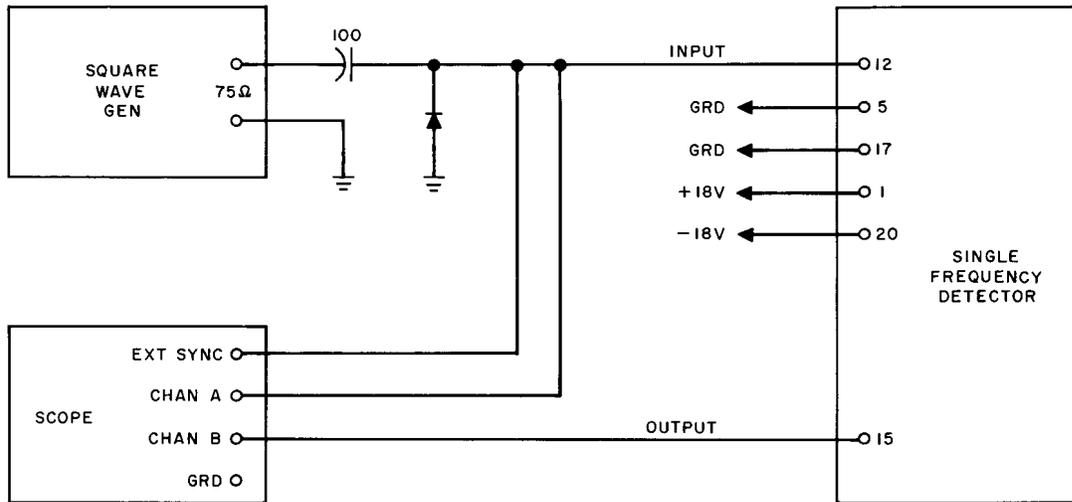
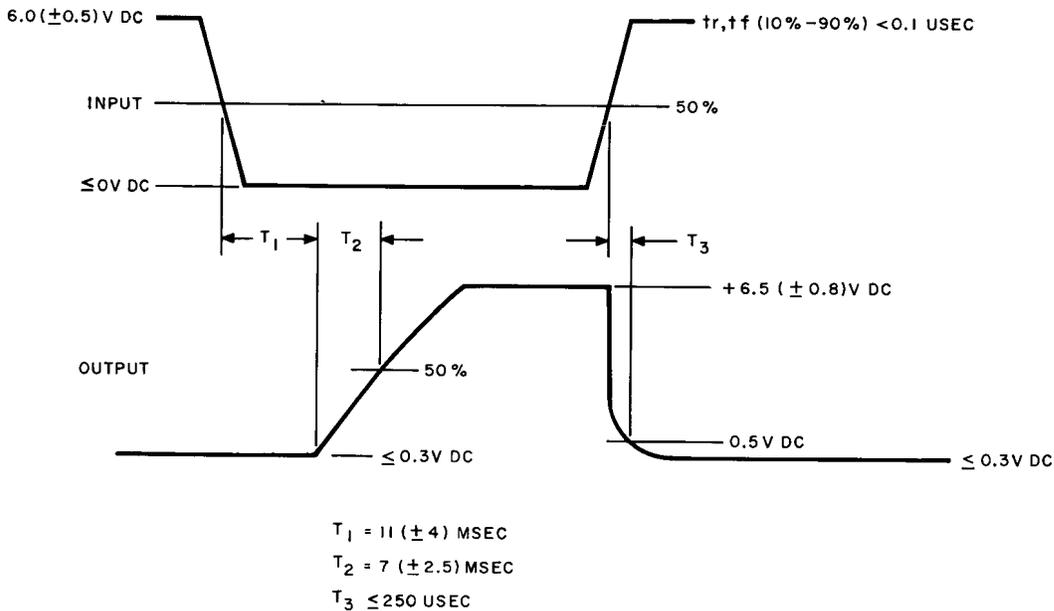

Fig. 17A — Single-Frequency Detector Test Circuit
Fig. 18A — Single-Frequency Detector Test
- (1) Connect the circuit pack to the suggested test circuit shown in Fig. 17A. Connect +18.0 (± 0.5) Vdc to terminal 1, -18.0 (± 0.5) Vdc to terminal 20, and ground to terminals 5 and 17.
- (2) Set the frequency of the square-wave generator to 5 (± 0.5) Hz.
- (3) The input waveform shall be as specified in Fig. 18A.
- (4) Set the scope EXT SYNC TRIGGER to the (-) negative position. The output waveform shall be as specified in Fig. 18A.
- (5) Set the scope EXT SYNC TRIGGER to the (+) positive position. T_3 shall be as specified in Fig. 18A.